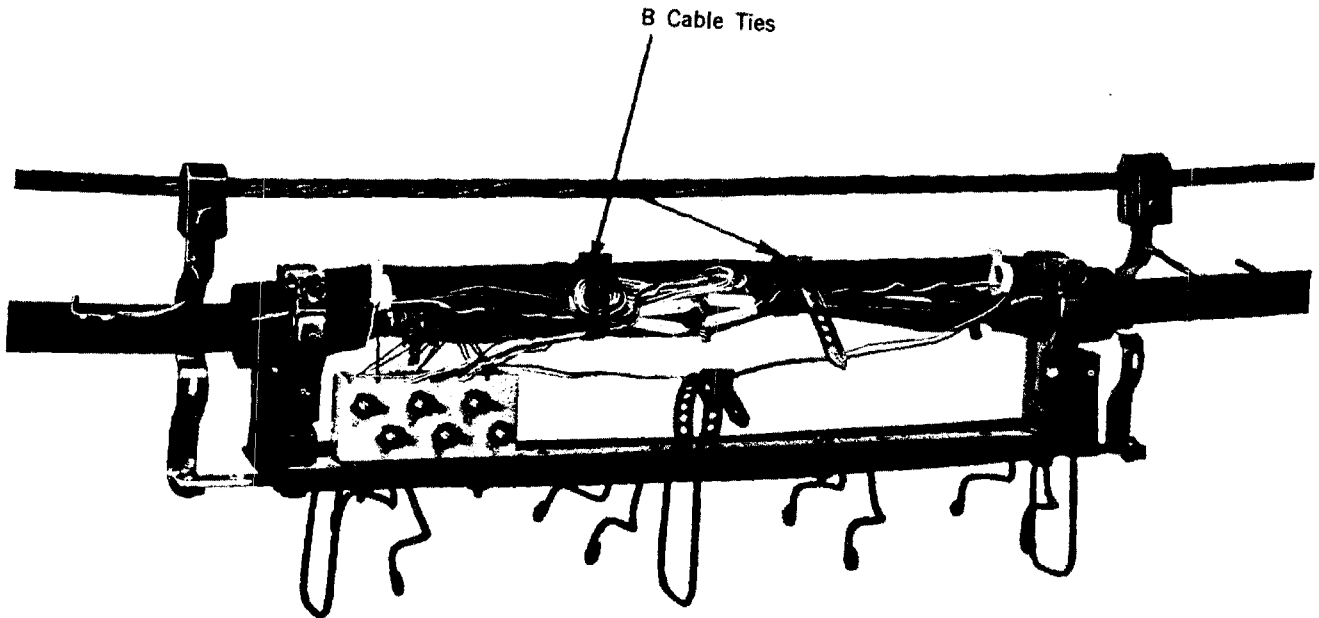

Fig. 8 - Completed Termination
5.05 Fig. 8 illustrates in and out connections for one cable pair completed and held in place with B Cable Ties.